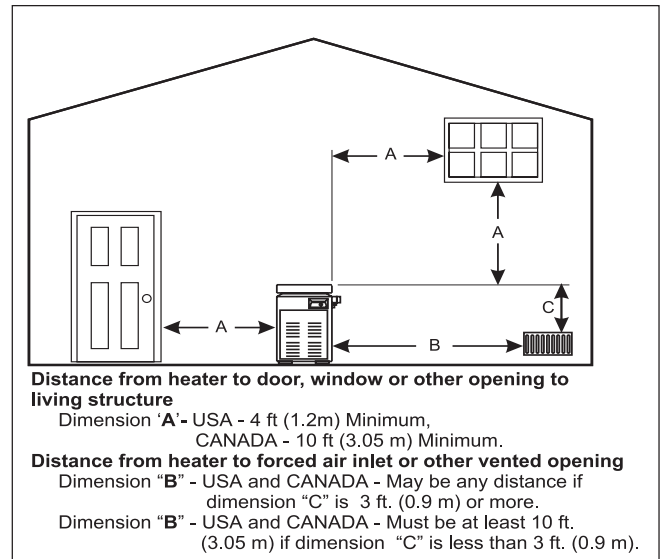

Figure 3. Outdoor Heater Installation.
Do not locate the heater below or adjacent to any doors, glass openings, louvers, grills, etc., which connect in any way with an inhabited area of a building, even though the access might be through another structure (e.g., a garage or utility room). In the United States there must be a minimum of four (4) feet (1.22 m) horizontally **or** four (4) feet (1.22 m) vertically between the heater exhaust point and any door, glass opening, or gravity inlet to a building. In Canada, the heater must be installed so that the exhaust point of the heater is at least ten (10) feet (3.0 m) from any building opening (see Figure 3).